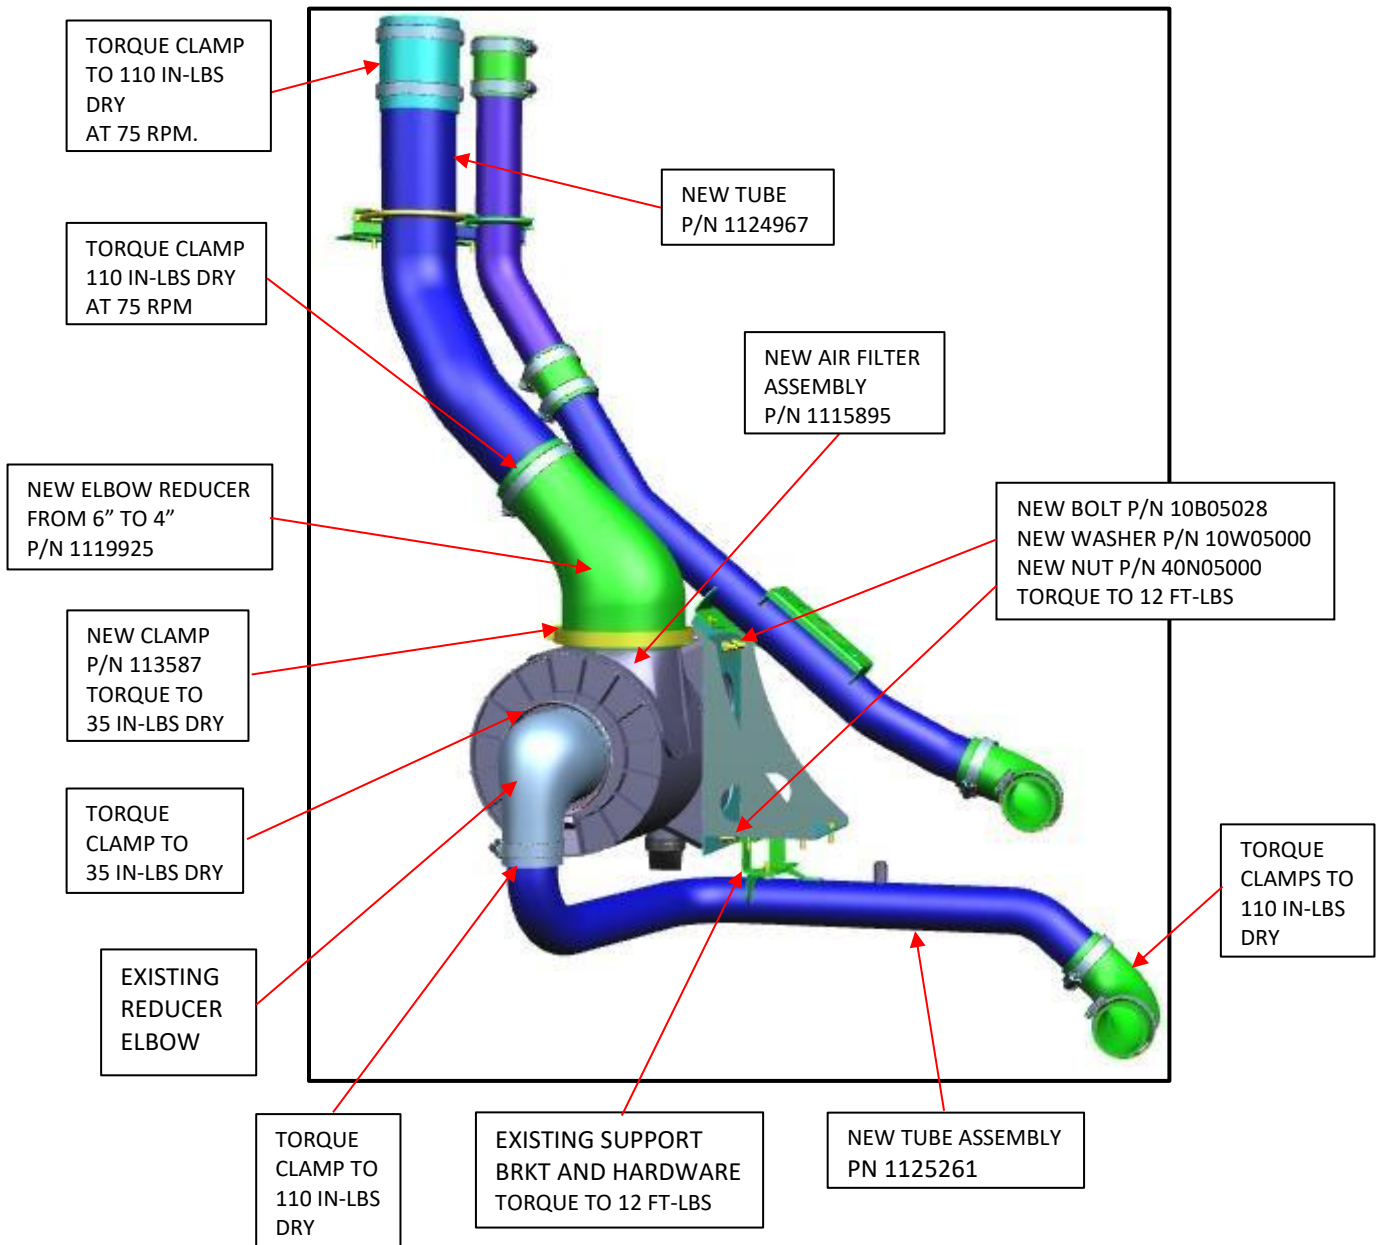

Figure 9: Air filter and intake tube location reference
- 18. Install new air filter assembly along with new air intake tubes and secure it using existing clamps as shown below. See figure 9.
- 19. Remove tape from elbow and secure FC air intake tube using same clamp, support bracket and hardware. See figure 9.